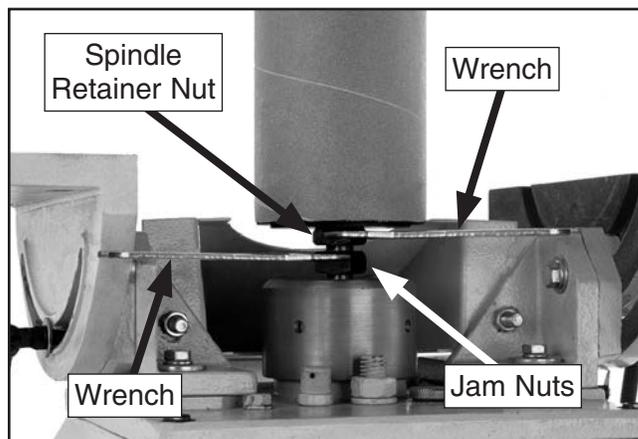

Figure 21. Spindle removal.
2. Use one of the supplied wrenches to hold the jam nuts stationary while you loosen the spindle retainer nut, and the spindle will back out as it un-threads (see **Figure 21**).